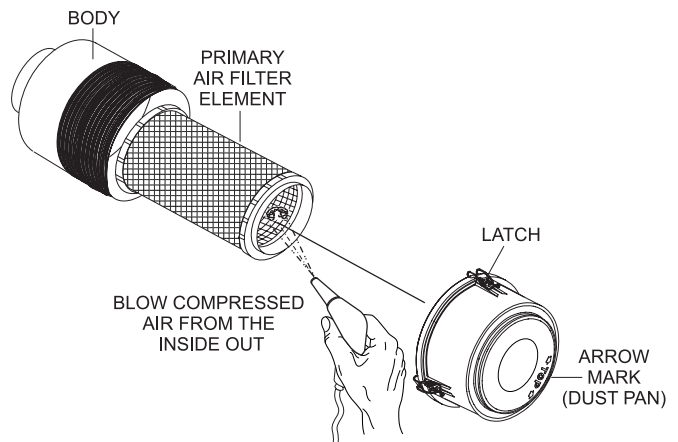

Figure 38. Air Cleaner
Every 250 hours: Remove air cleaner element (Figure 38) and clean the heavy duty paper element with light spray of compressed air. Replace the air cleaner as needed.
1. Release the latches (Figure 38) that secures the cover to the air cleaner body.
6. To clean the primary element (paper air filter) as referenced in (Figure 38), tap the filter element several times on a hard surface to remove dirt, or blow compressed air (not to exceed 30 psi (207 kPa, 2.1 kgf/cm²) through the filter element from the inside out.